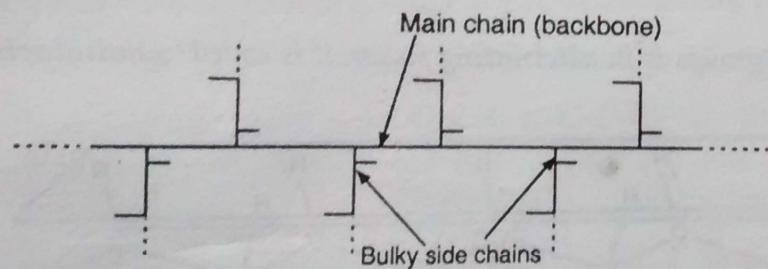

Fig. 2. Branched-chain polymer.
(2) During the chain growth, side chains may also form, resulting in **branched-chain molecules** (see Fig. 2). Such a molecule is no doubt a linear, but the movement in branched-chain molecules is more restricted than that of simple straight-chain molecules. A branched-chain polymer
(2) During the chain growth, side chains may also form, resulting in **branched-chain molecules** (see Fig. 2). Such a molecule is no doubt a linear, but the movement in branched-chain molecules is, generally, more restricted than that of simple straight-chain molecules. A branched-chain polymer also results, when a trifunctional monomer is mixed in small amounts with a bifunctional monomer and polymerized.